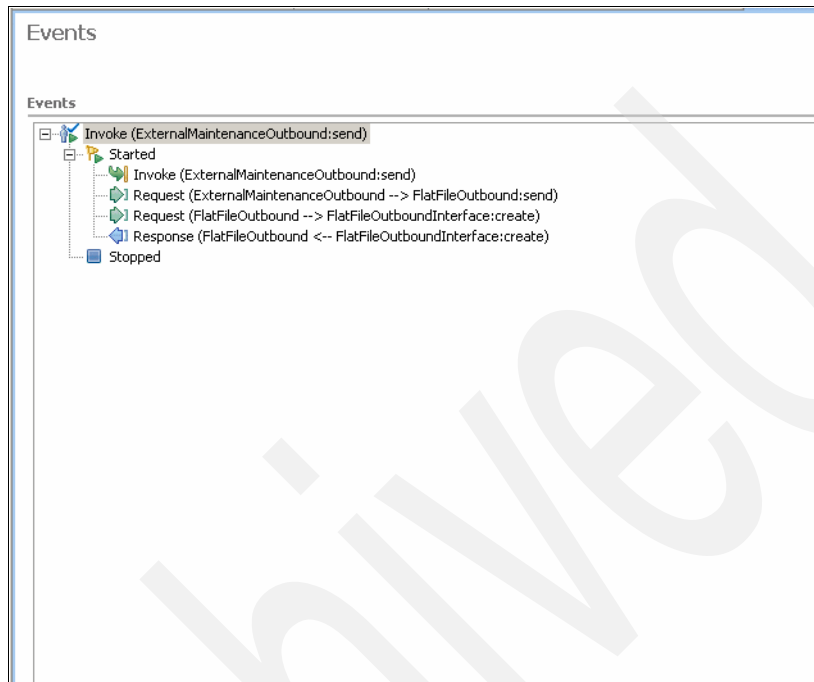

Figure 2-50 Successful execution
12. We then get a successful response back. The flow of execution is shown in Figure 2-50.